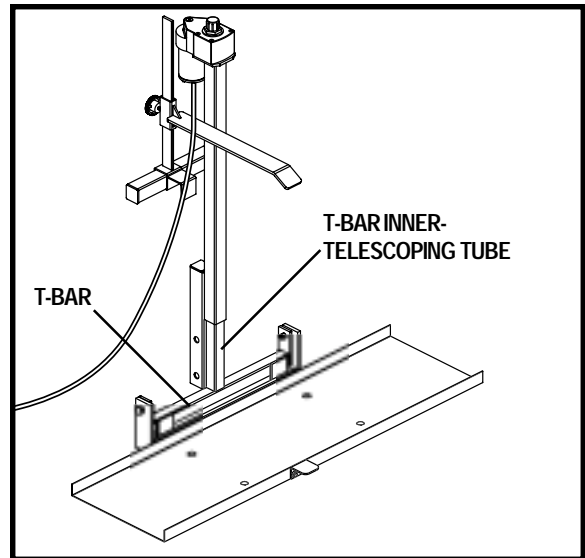

Figure 10. Lift Frame Maintenance
- Lower the platform to the ground, clean away any remnants of old grease from the T-bar inner-telescoping tube, and apply a new coat of all-weather lithium grease to the inner-telescoping tube. See figure 10.